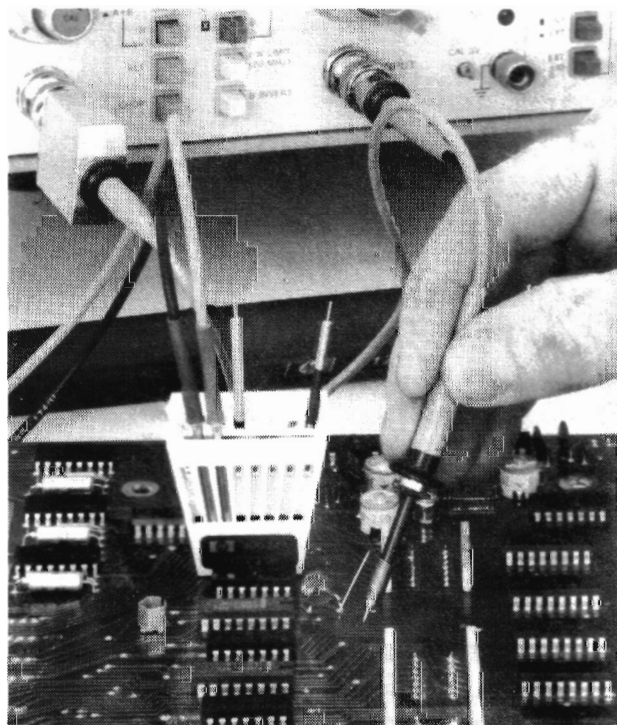

Figure 1. Use of Probe in IC Circuit Testing
2. Hewlett-Packard miniature oscilloscope probes significantly reduce the problem of probing densely populated IC components or the characteristically minute conductors on IC circuit boards (see figure 1). These small, light-weight probes allow measurements that were previously very difficult, while reducing the hazard of shorting. The probe body fits in the hand as comfortably as a pencil, and the needle point tip easily penetrates protective coatings for positive contact. Two accessories that further simplify and improve connection to dual in-line packages are the IC grabber (MP7, supplied) and the IC test clip (HP Model 10024A, available accessory).